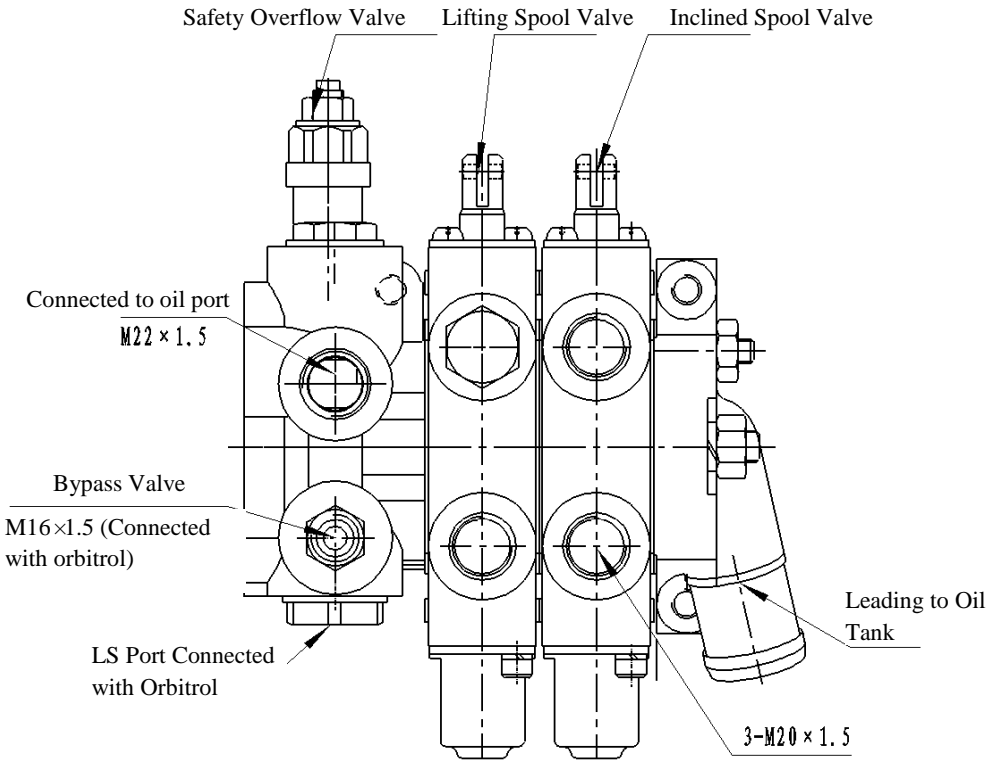

Fig 7-1 Multi-way Valve
6.3 Multi-way Valve and Bypass Valve (Fig 7-1)